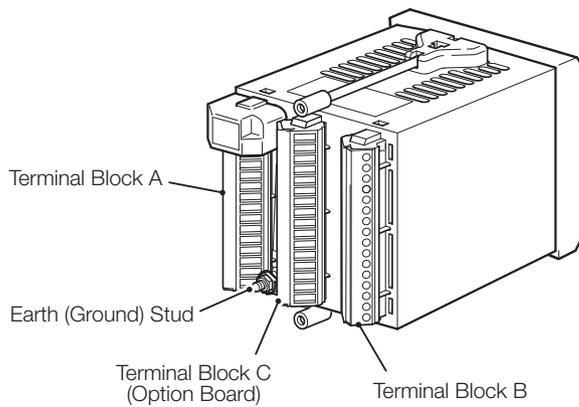

Fig. 6.10 Access to Terminals, Panel-mount Analyzers
- The power supply earth (ground) **must** be connected to the earth (ground) stud on the analyzer case – see Fig. 6.8 (wall-/pipe-mount analyzers) or Fig. 6.10 (panel-mount analyzers).
- Earthing (grounding) – a stud terminal is fitted to the analyzer case for bus-bar earth (ground) connection – see Fig. 6.8 (wall-/pipe-mount analyzers) or Fig. 6.10 (panel-mount analyzers).
6.5.1 Access to Terminals – Fig. 6.10